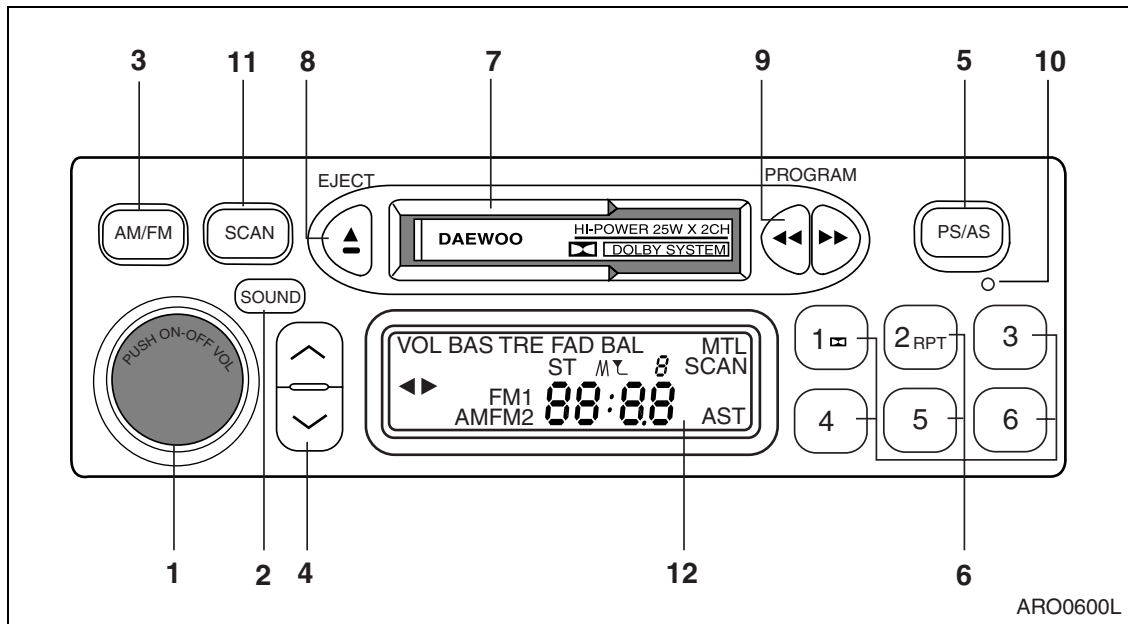

Figure 70
2. Press the power on/off button (1, Figure 70).
4. Set up area code (Use the preset station button 6, Figure 70).
6. Set up security code "1156" (Use the preset memory button 6, Figure 70).
To quickly search for next receivable lower station, press the tuning down (9, Figure 70) button (4) for more than 0.5 second. To quickly search for next receivable higher station, press the tuning up (9, Figure 70) button (4) for more than 0.5 second.
Press the tuning up or down (9, Figure 70) button (4) for less than 0.5 second to increase or decrease the frequency. The frequency of AM band changes 9 kHz each time, the frequency of LW band changes 1kHz and the frequency of FM band changes 50kHz each time.
To fast wind the tape, press the fast forward button (9, Figure 70). The tape direction indicator will blink on the LCD. When the tape reaches its end, it is automatically reversed and played back from the beginning of the opposite side. To stop the fast forward movement, press the rewind button (9, Figure 70).
To rewind the tape, press the rewind button (9, Figure 70). The tape direction indicator will blink on the LCD. When the tape is fully rewound, it is played back from the beginning of the same side. To stop the rewind movement, press the fast forward button (9, Figure 70).
To play the opposite side of tape while playing one side, press the fast forward (9, Figure 70) and rewind (9, Figure 70) buttons simultaneously.